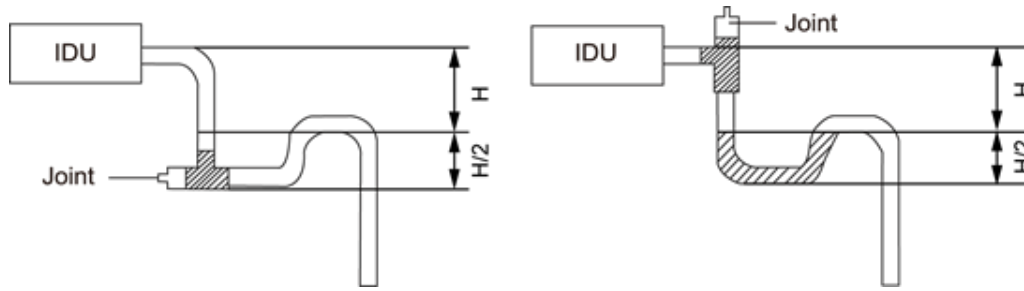

Fig 4.3.5
- (5) Install the trap as shown in following Fig 4.3.5.